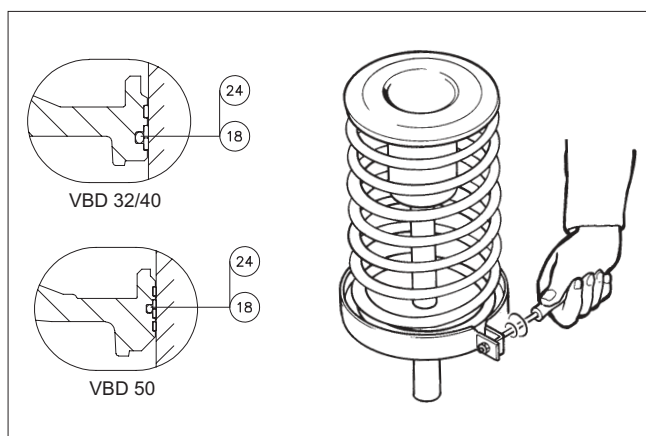
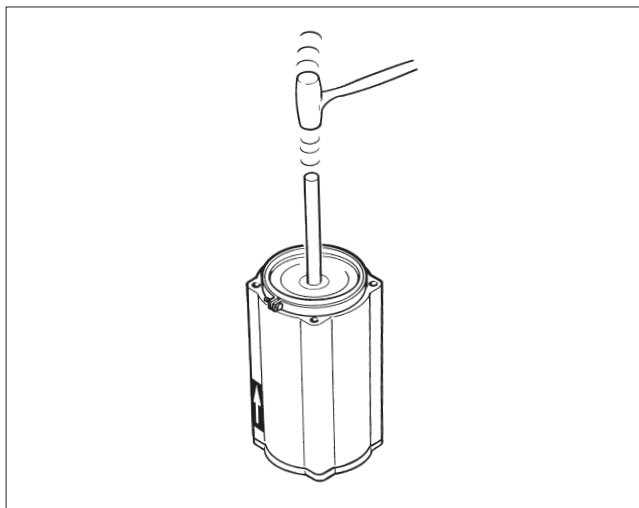

Fig. 9 Tightening piston seals with a tie ring
Fig. 10 Placing the piston into cylinder pipe
- Apply VCI-369 to O-ring groove on the piston (9).
- Use tie ring to assemble the piston ring (24) to the prefabricated spring package. Refer to Fig. 9.
- Lubricate seal space, inner surface of bearing (2) and new O-rings with Unisilikon L250L or equal silicone grease.
- Put the bearing (2) and new O-rings (16) into the cylinder base (6).
- Mount the cylinder pipe (8) to the cylinder base (6).
- Fasten the VB 32 screw (31) or VB 40/50 stud (31) and hexagon nut (45) on the cylinder base (6).
- Press the prefabricated spring package into the cylinder pipe (8). Refer to Fig. 10.
- Make sure that piston rod (10) is not scratched.
- Mount the cylinder end (44) to the cylinder pipe (8).
- Fasten the VB 32 screw (31) or VB 40/50/60 stud (31) and hexagon nut (45) on the cylinder end (44).
- Mount the yoke (1) on the cylinder base (6).